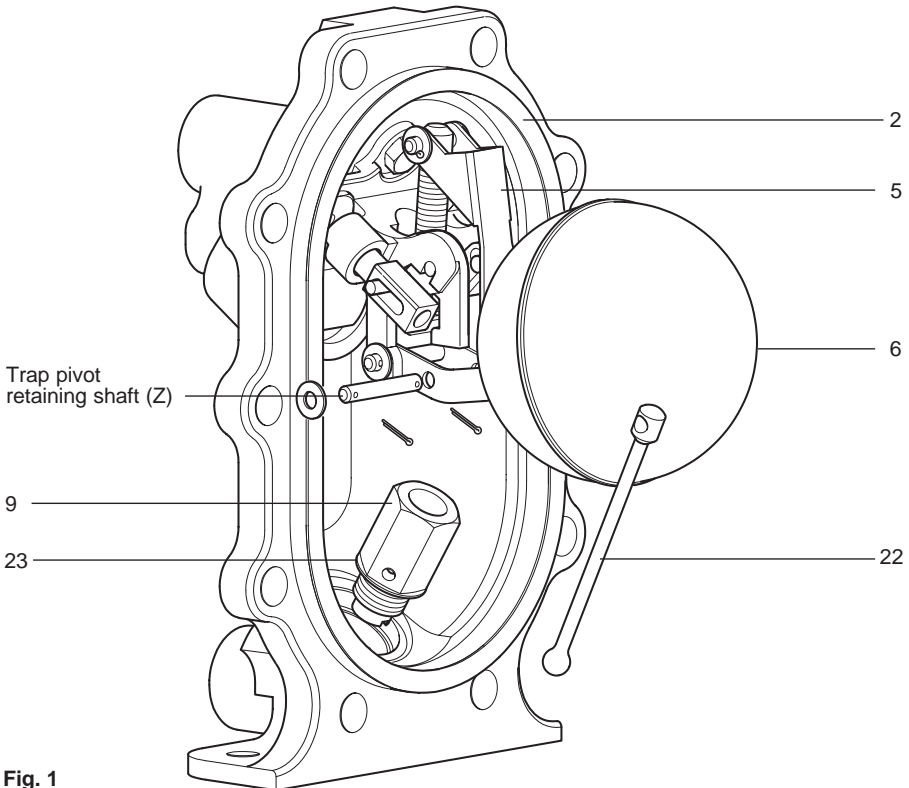

Fig. 1
3. Carefully fit a new gasket (item 2) into the existing body.
4. Remove split pin, washer and shaft from the trap pivot (Z) (See Fig. 1).
5. Remove trap valve stem (item 22) from the mechanism.
6. The float and lever (items 5, 6) can now be swung up out of the way leaving access to the trap and check valve assembly.
7. Using the 24 mm A/F socket unscrew the trap and check valve housing (item 9).
10. Before fitting a new mechanism, clean the trap housing bore within the cover ensuring any sludge or scale is carefully removed. Remember to fit a new gasket (item 23).
13. Refit the trap valve stem and trap pivot shaft (Z) (length 40 mm) remembering to use new split pins and washers - to the trap lever (item 5).
14. Move the float to its upper and lower limits to ensure the trap mechanism operates smoothly and the valve stem (item 22) slides smoothly within its guide.